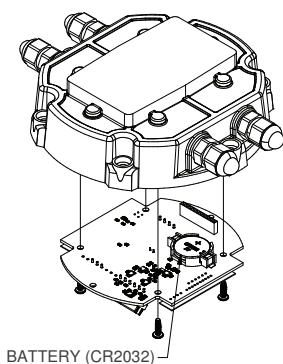

Figure 14
- Remove and replace the coin cell battery (CR2032) on the back side of PC board (see Figure 14).
- Reverse the procedure to reassemble the cover plate to the meter. Make sure the cover plate seal is seated before tightening the (6) cover plate screws.